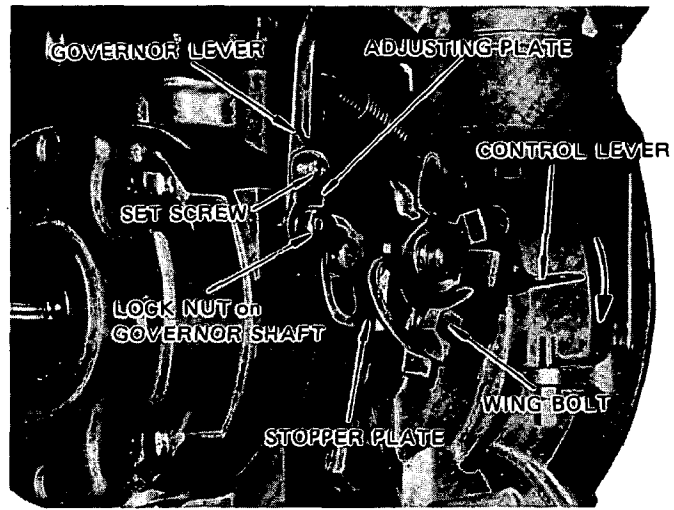

Fig. 8-2-1
### 8-2-1 IN CASE OF MODELS EC10, EC17 (See Figs. 8-2-1, 8-2-2 and 8-2-3.)
- 1) As shown by arrow mark on Fig. 8-2-1 turn control lever to high speed side (clockwise) until stop fully, and fasten the control lever by tightening wing bolt.